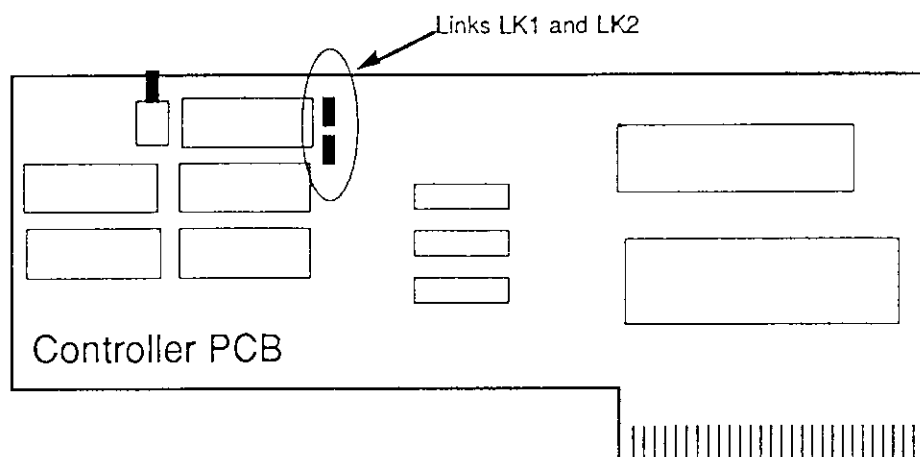

Figure 3 - Controller PCB Link Connections
- (1) Lay the old and replacement unit side by side and locate the two link connections, LK1 and LK2, Figure 3 shown below refers.